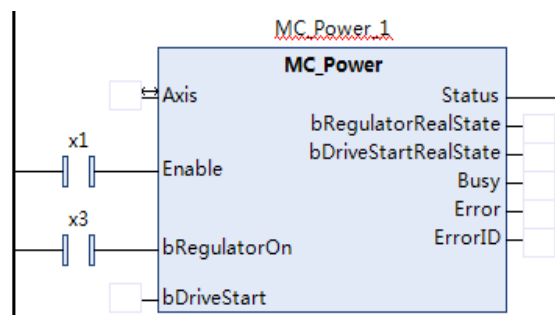

Figure 5-2 Multi-input line operation block
- Multi-input line operation block: The operation block contains multiple inputs that are connected to the energy flow line. Figure 5-2 shows an operation block with two input lines. Because a multi-input line operation block provides multiple lines connected to the energy flow line, it is only located in the first branch and cannot be connected to branches in parallel.